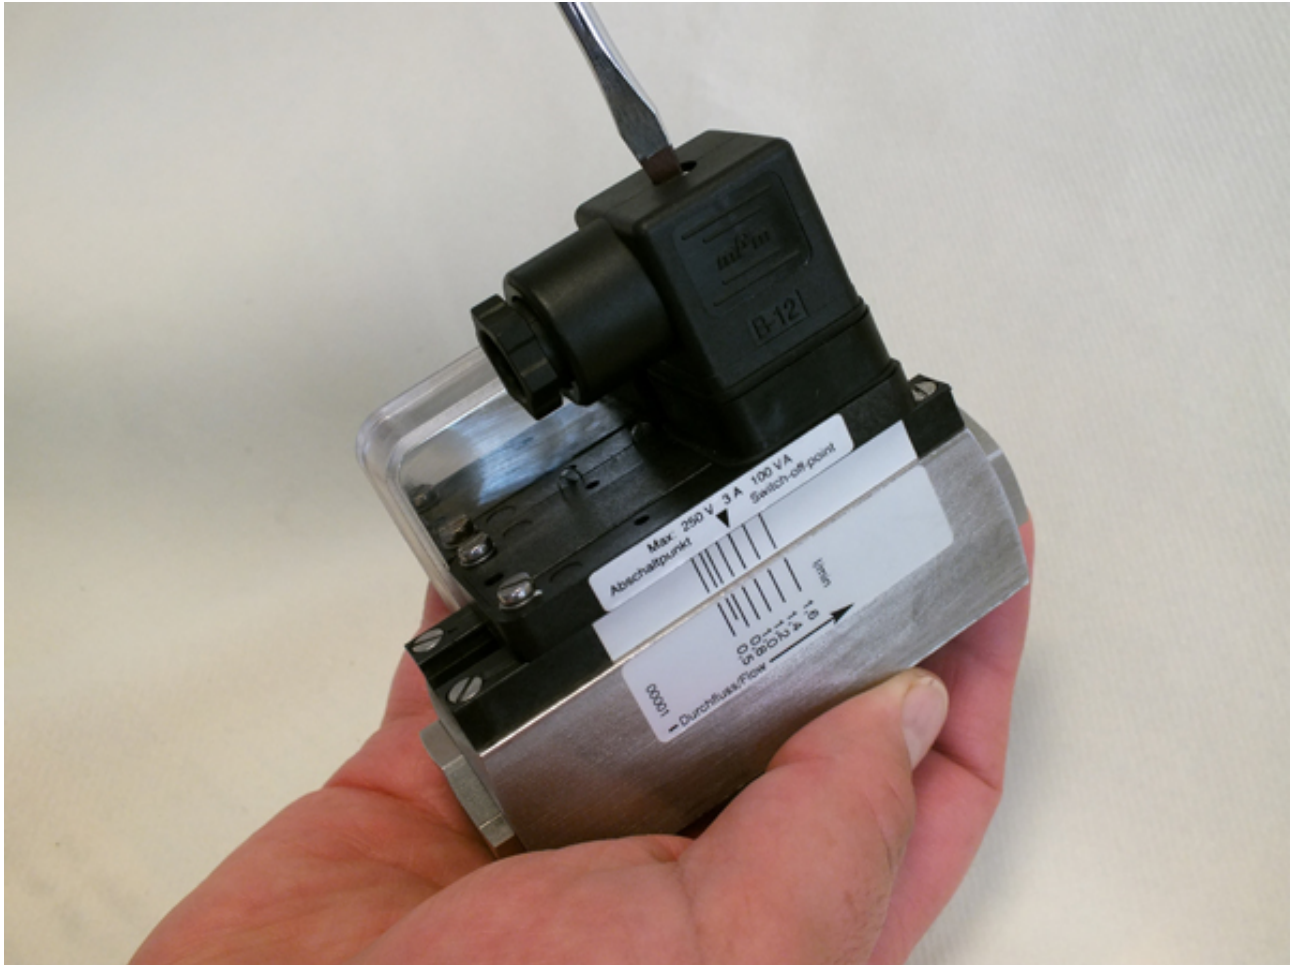

Fig. 25: Detach socket
1. ➤ Release the fixing screw (Fig. 25) from the socket
9. ➤ Place the female socket onto the connecting plug and tighten the fixing screw (Fig. 25/1).